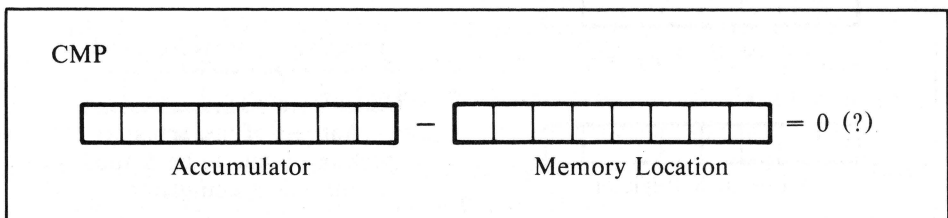

Figure 12-1. Compare
- **CMP** — Compare the value in the accumulator with the value in a specified memory location (see Figure 12-1).